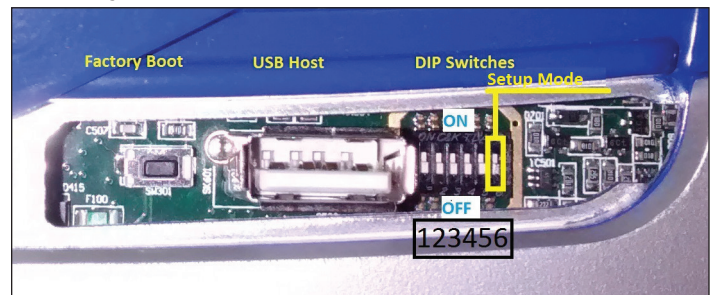

Figure 86. USB port
4. Plug the USB drive into the USB Host port (see **Figure 86**). Within 10 seconds, the module should recognize the USB drive and the OK LED should flash red-green. If the module does not